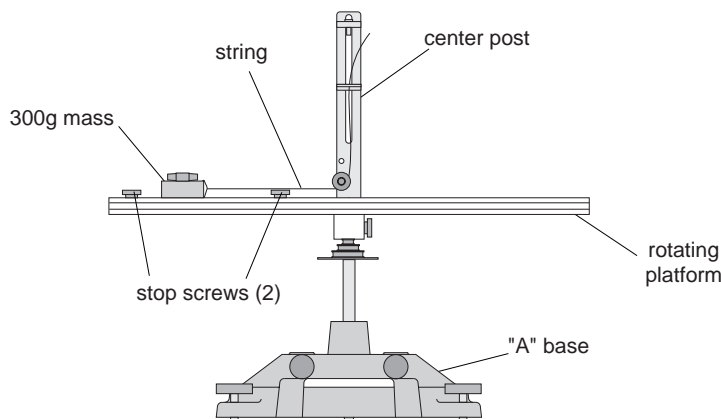

Figure 4.2: Set-up for conservation of angular momentum
- ① Level the apparatus using the square mass on the track as shown in the leveling instructions in the Assembly Section.
- ② Slide a thumb screw and square nut into the T-slot on the top of the track and tighten it down at about the 5 cm mark. This will act as a stop for the sliding square mass. See Figure 4.2.